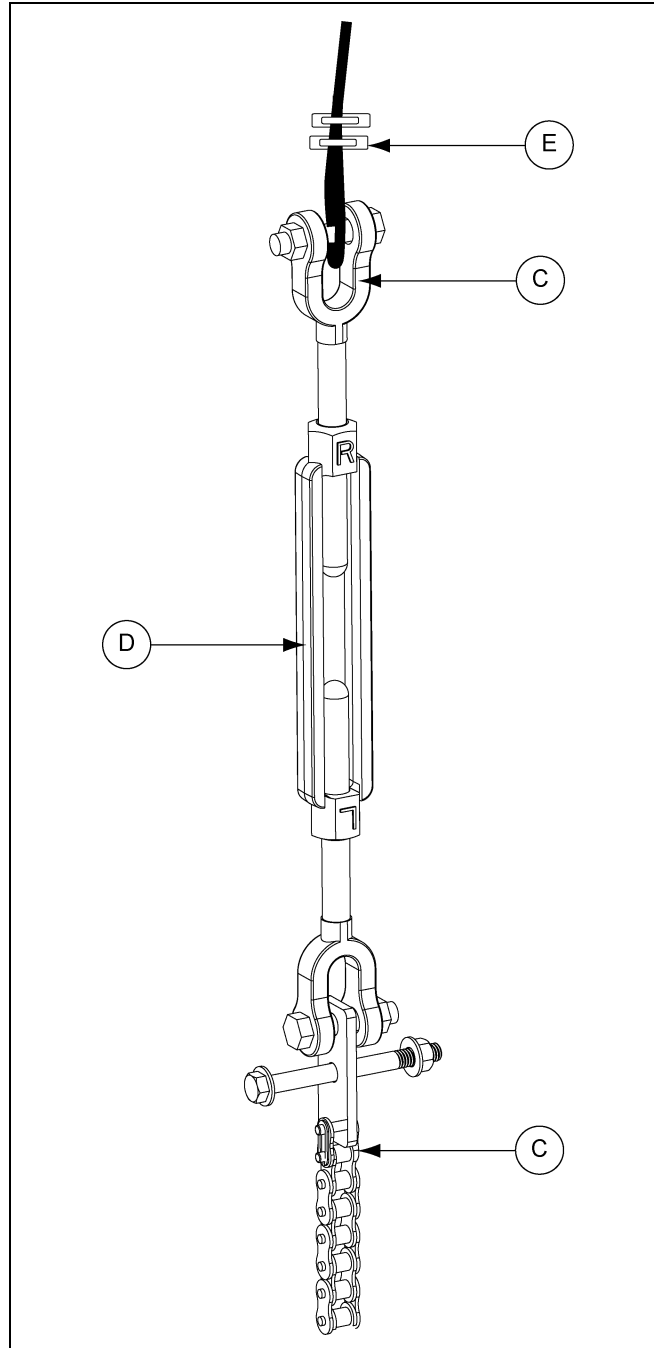

Figure 4J
2. Set turnbuckle (D) to the halfway point to allow for adjustment in both directions. *(See Figure 4J.)*
3. Bolt the turnbuckle to the chain (C). *(See Figure 4J.)*
4. Attach the cable to the turnbuckle using cable clamps (E). *(See Figure 4J.)*